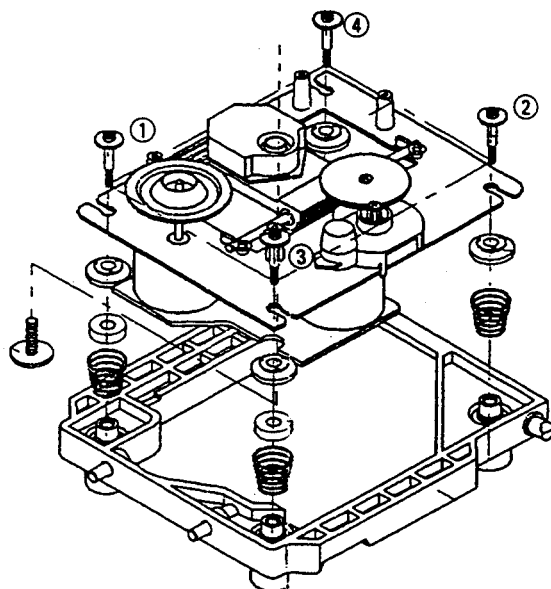

Figure 6
4. Remove 4 screws (See Figure 6).